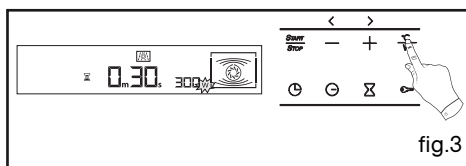

fig.3
- Press the  button, "300 w" is displayed, it is the maximum temperature (fig.3).
Example: 25 minutes of cooking (fig.3).